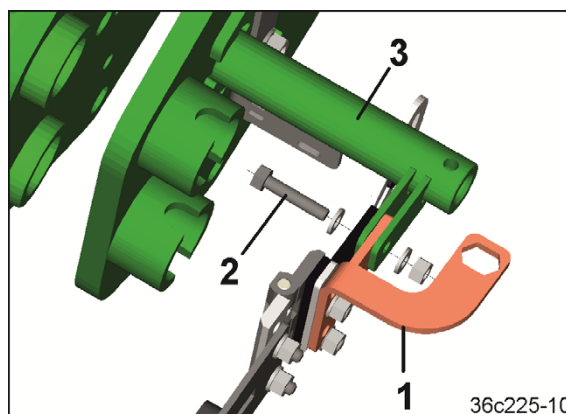

Fig. 98
6. Bolt the section (Fig. 98/1) with a hex. bolt (Fig. 98/2) onto the holder (Fig. 98/3).